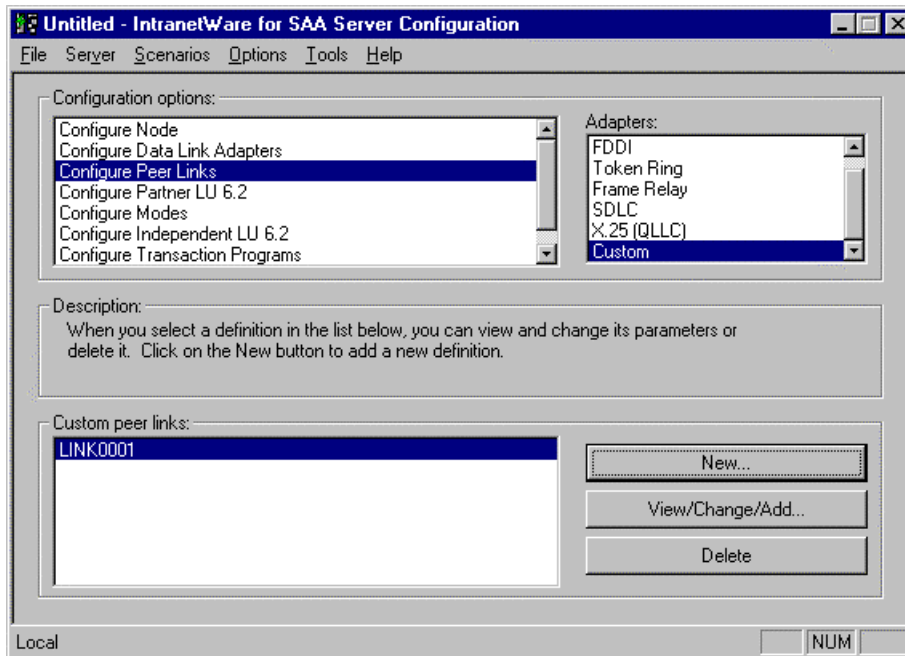

Figure 11-32. Main Display - Newly Created Custom peer link
- To complete the peer link configuration, click **OK**. The NWSAA Server Configuration main screen will re-appear (Figure 11-32). The newly defined link will appear in Custom Peer Links under the APPN/APPC Hierarchy.
In intraNetWare for SAA version 3, the link will appear in the **Custom Peer Links:** box (Figure 11-32).